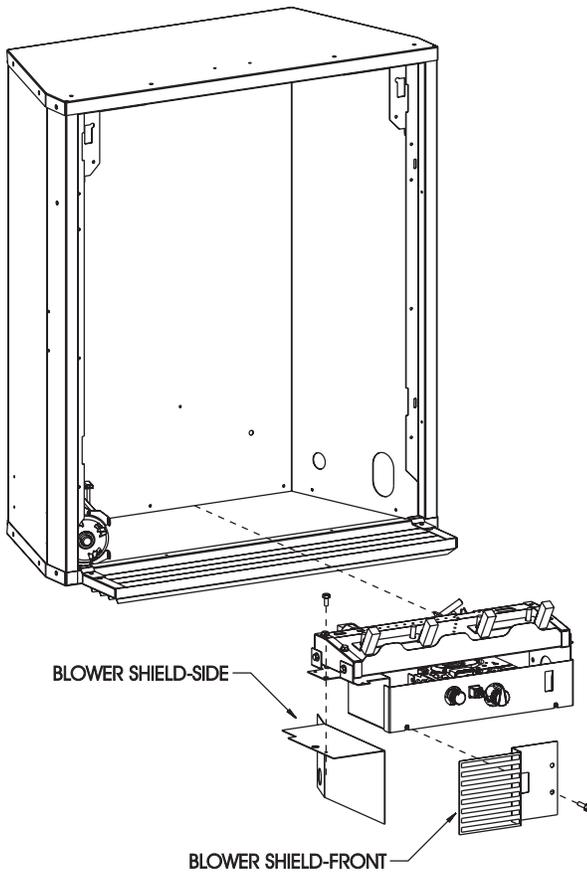
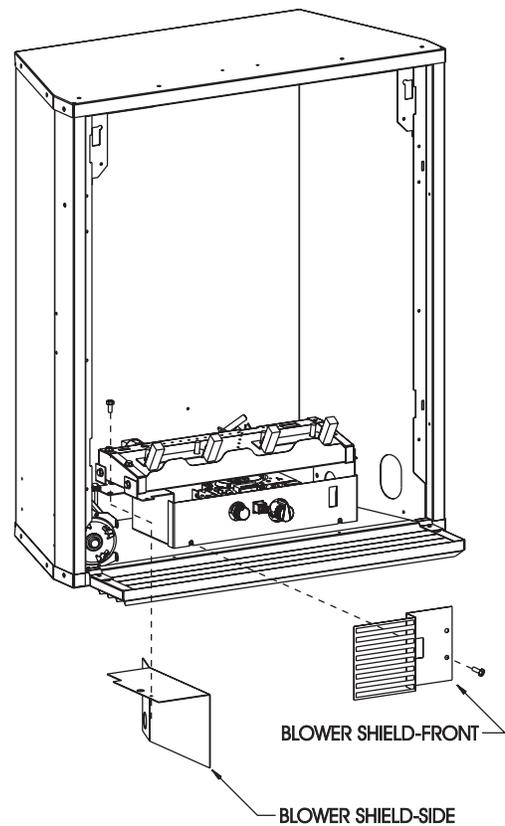

Figure 3
Figure 4
11. Place blower shield side adjacent to motor. Route blower motor wires through Heyco on blower shield side. (See Figure 3 and Figure 4)
23. Position blower shield side beneath left flange on burner assembly. Align clearance hole on left flange of burner assembly with screw hole on blower shield side. Attach burner assembly to blower shield side with one (1) 10 x 1/2" screw. (See Figure 3 for **not installed** or Figure 4 for **installed**)